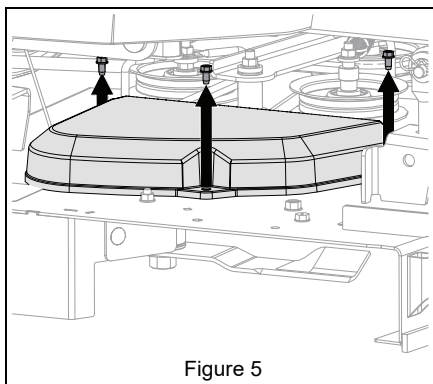

Figure 5
5. *All Decks Except 60"*: Remove three 1/4" tapping screws retaining belt cover and remove belt cover. Retain all parts for operation without bagger. See Figure 5.